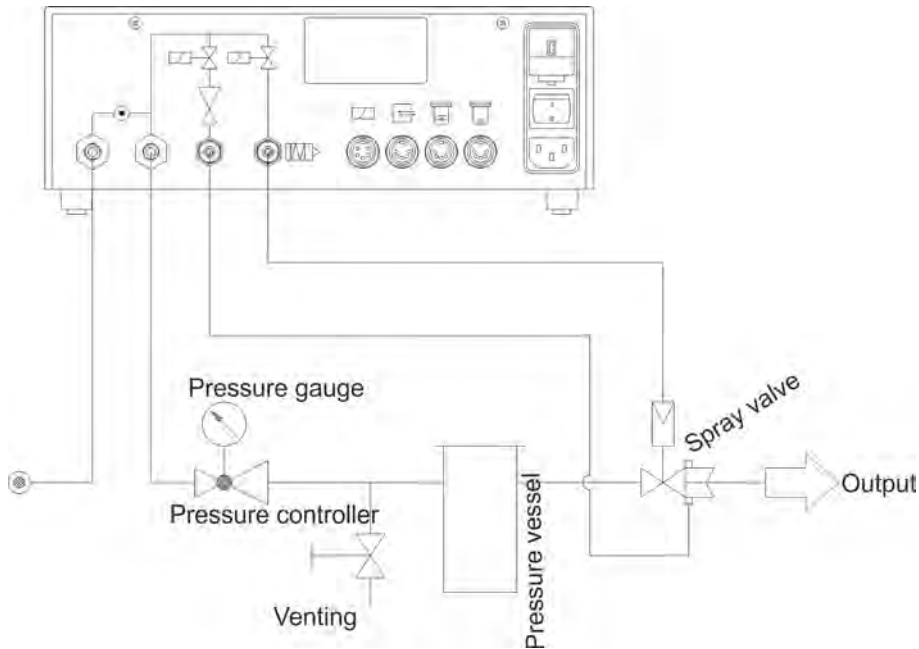

Fig. 1: Description of function
- Create compressed air connection (see Fig. 1).
- Close spraying air valve (see Fig. 1).